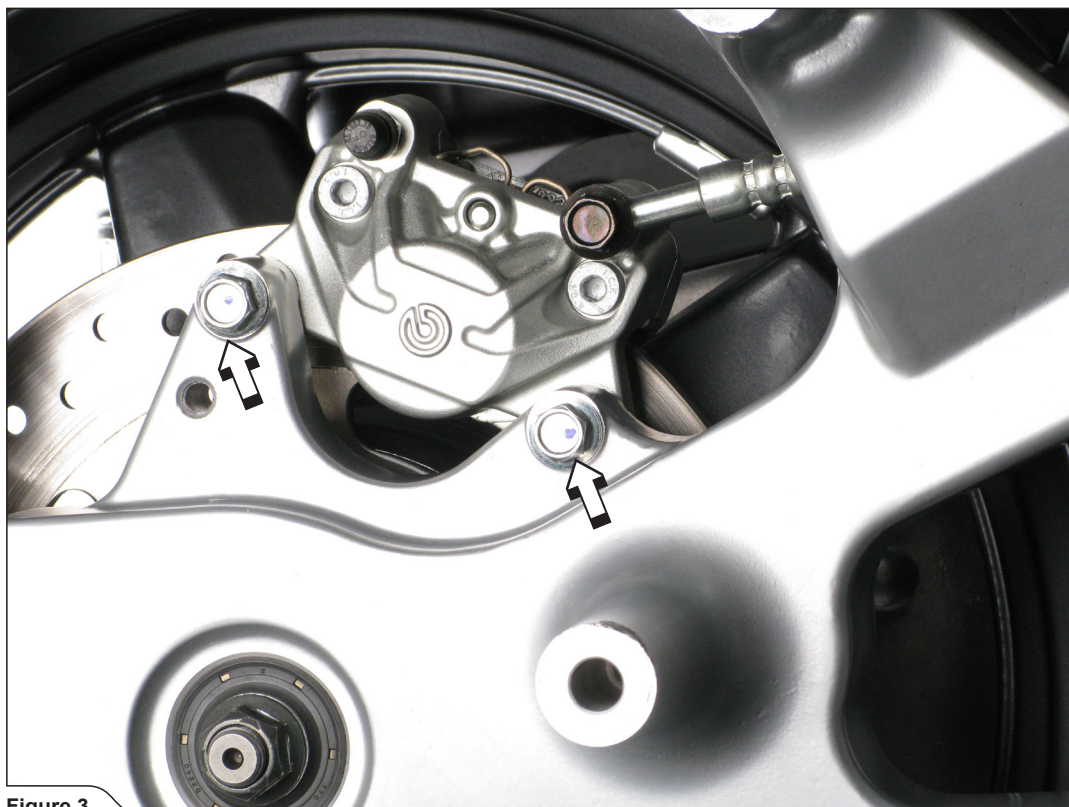

Figure 3
4. For X-MAX125 / X-CITY125 only: unscrew the marked rear brake caliper bolts (Figure 3).